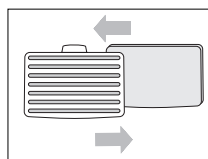

fig.7
- Turn the upper lid of the dust collector (A) clockwise to lock it in.
3. Changing filter for air-outlet (fig.7)